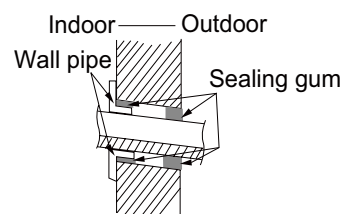

Fig.16
- (1) Put the bound pipes in the wall pipe and then make them pass through the wall hole.
- (2) Hang the indoor unit on the wall-mounting frame.
- (3) Stuff the gap between pipes and wall hole with sealing gum.
- (4) Fix the wall pipe.(As show in Fig.16)